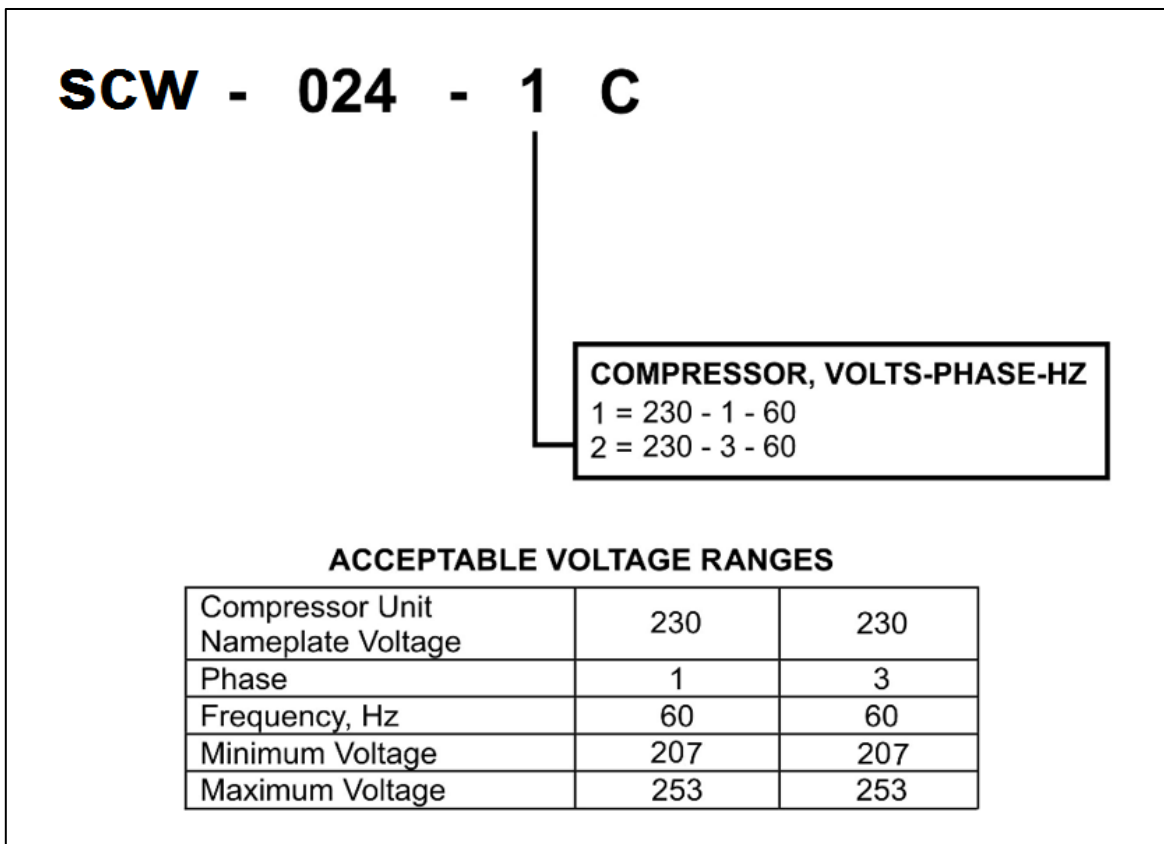

Figure 34. Compressor Unit Voltage Information
After setting the remote (wall) thermostat system switch to the “OFF” position and the thermostat fan switch to the “AUTO” position, proceed to check the supply voltage at (1) the line terminals to the breaker/disconnect; 2) the system side of the breaker/disconnect, and 3) the line-side of the transformer. Verify the proper voltage rating for the system. Reference Figure 34.
4. **Check incoming power supply voltage** to determine whether it is within acceptable voltage range. (See Figure 34)
5. **Check voltage at compressor unit terminals** to determine whether it is within acceptable voltage range. (See Figure 34)